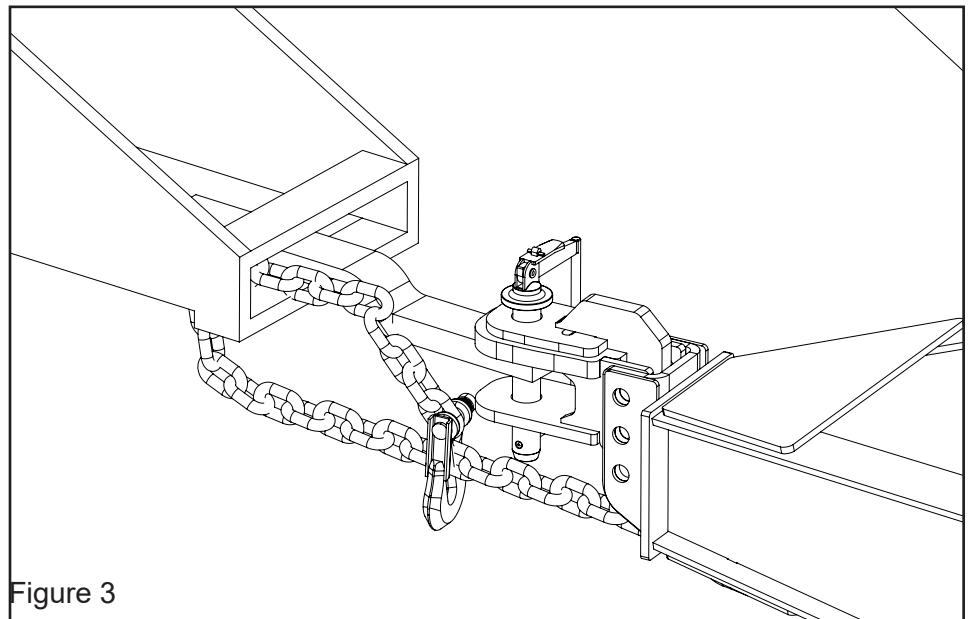

Figure 3
2. Lock safety hook onto chain. (Figure 3 below)
A safety chain will help control drawn equipment should it accidentally separate from the draw-bar while transporting. Using the appropriate adapter parts, attach the chain to the tractor draw-bar support or other specified anchor location. Provide only enough slack in the chain to permit turning. The chain needs a strength rating equal to or greater than the gross weight of the towed machine. See Figure 3 for illustration of the Safety Chain.